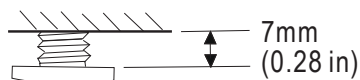

Fig.7
8. Screw the four  $\varnothing$  5 mm x 30 mm tapping screws into the pilot holes. Leave screw heads about 7 mm (0.28 in) from the cabinet surface (figure 7).